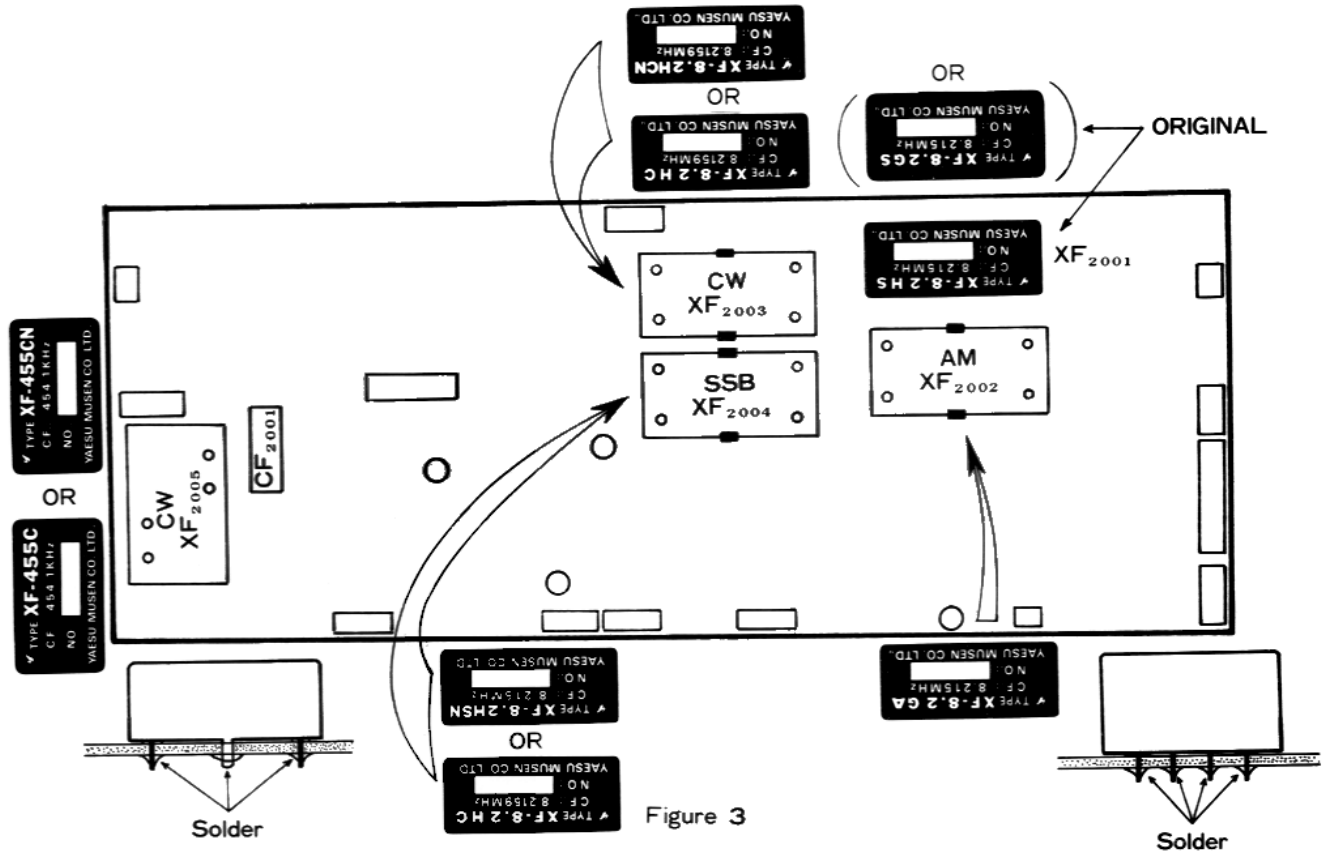

Figure 3
- Referring to Figure 3, install the filters one at a time from the component side of the board, soldering each into place (from the solder side). Make sure to position the filter(s) label(s) facing as shown.